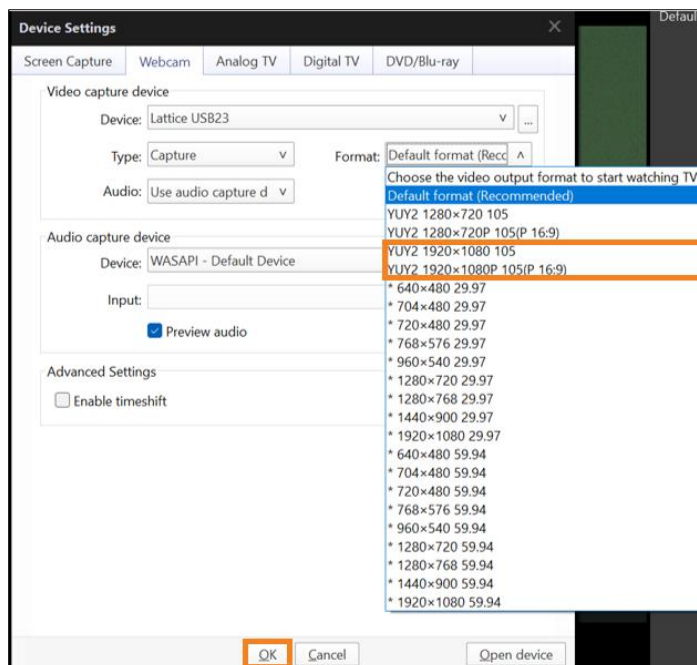

Figure 7.2. 1080p Selection in PotPlayer
3. In Format dropdown menu as shown in Figure 7.2, select the YUV2 1920x1080 Option. Then click **OK**.